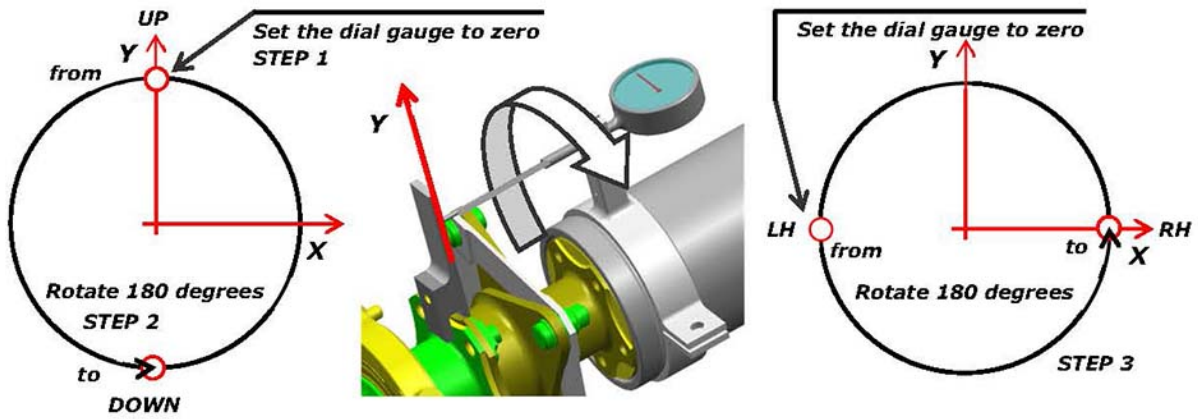

Figure A1 – Direct alignment check
- 1.1 With reference to Figures A1 and A2, install the the direct alignment tools on the bearing support coupling (C).